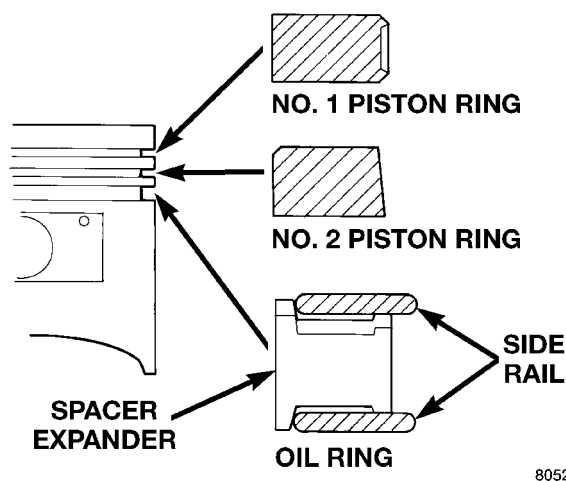

Fig. 81 Piston Ring Installation
(1) Install rings with manufacturers I.D. mark facing up, to the top of the piston (Fig. 81).
- (2) Install upper side rail first and then the lower side rail.
- (3) Install No. 2 piston ring and then No. 1 piston ring (Fig. 81).